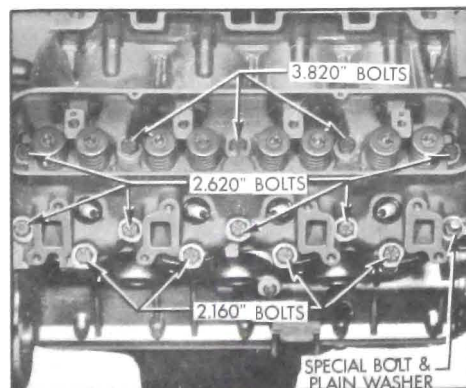
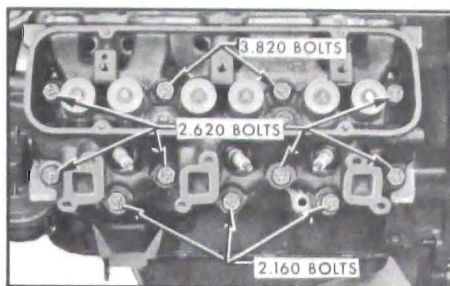

Figure 2-30—V-8 Cylinder Head Bolt Installation
Figure 2-31—V-6 Cylinder Head Bolt Installation
5. Clean and lubricate the head bolts with "Perfect Seal" sealing compound. Install bolts as shown in Figure 2-30 on V-8's or Figure 2-31 on V-6's.
around in the sequence shown in Figure 2-30 on V-8's and Figure 2-31 on V-6's, then torque the bolts in the same sequence to 65-70 ft. lbs.